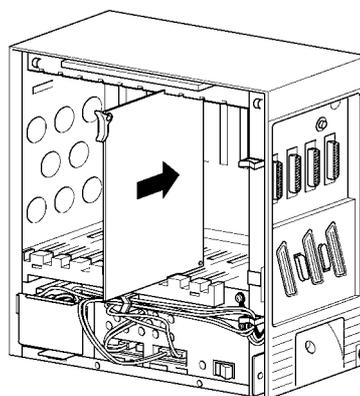

Figure 5-1 Inserting the ETU into the KSU
- ⌚ When installed, the component side of all ETUs must face the left side of the KSU. Ejector tabs are always on top. Refer to *Figure 5-1 Inserting the ETU into the KSU*.